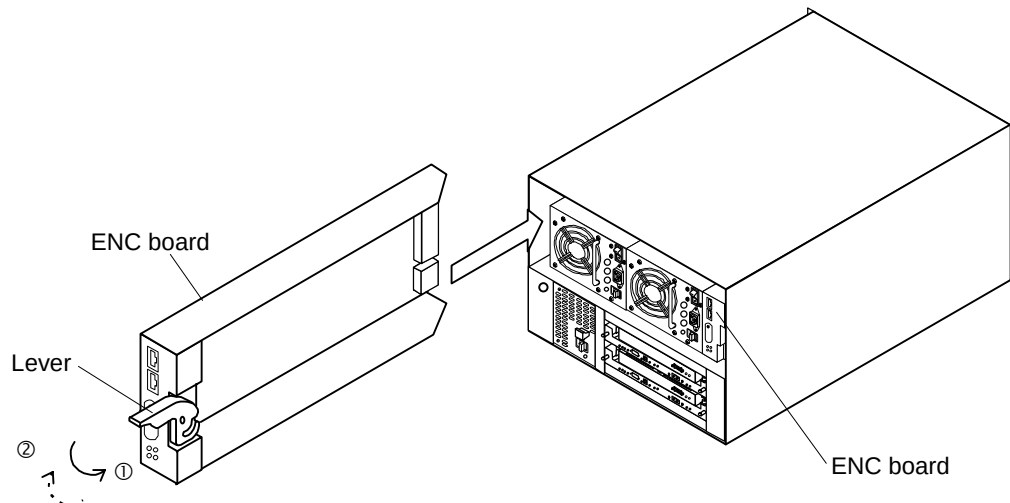

Figure 4.3.11 Replacing of ENC Board
(1) Procedure for replacement with the power turned on (See Figure 4.3.11.)